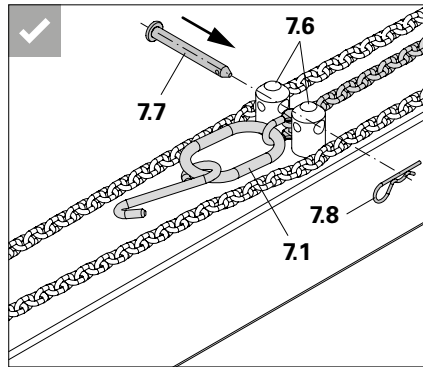

Fig. A3.10
- Ring 1 (7.1) is positioned in front of both spigots (7.6). (Fig. A3.10)
7. Insert bolts (7.7) through the holes of both spigots (7.6). (Fig. A3.10)
8. Insert the cotter pin (7.8) through the hole in the bolt (7.7). (Fig. A3.10)
Is the chain (7.9) positioned between the two spigots (7.6)? (Fig. A3.10)